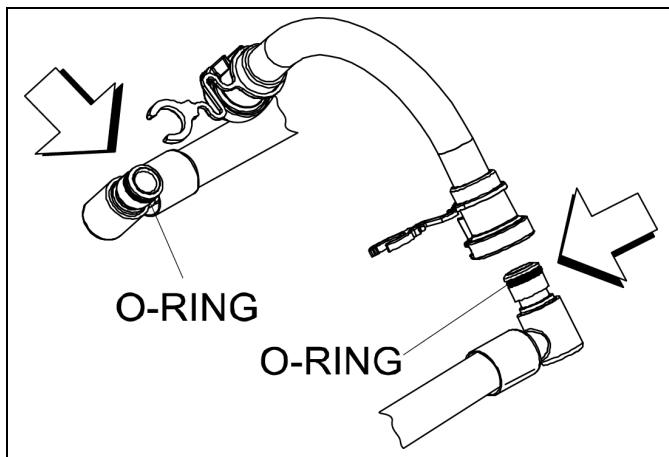

Figure-69
- Lubricate the O-rings on the syrup line fittings with Taylor Lube HP. (See Figure-69.)